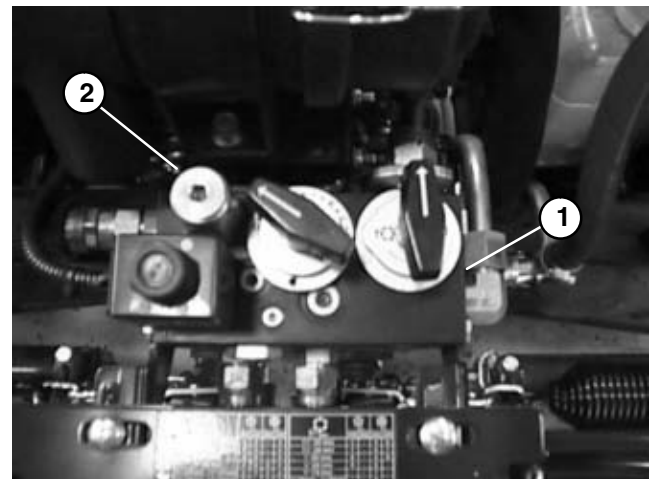

Figure 28
- A. Remove the cap from the relief valve (Fig. 28).